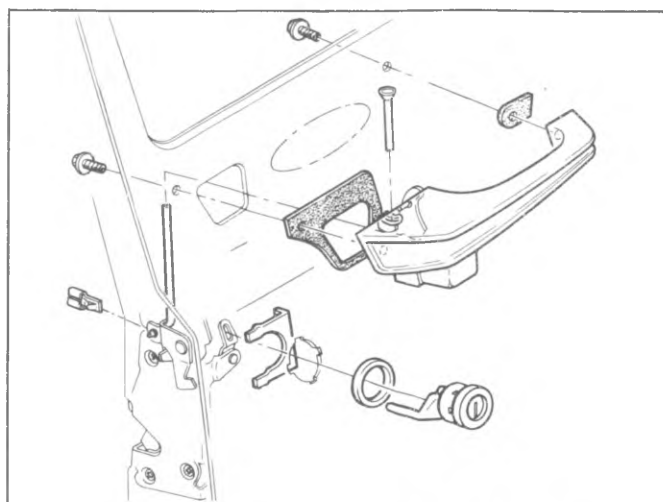

Fig. 2D-36--Outside Handle and Lock Cylinder
5. Remove clip from outside handle rod-to-lock. This is best accomplished by inserting a long screwdriver through the daylight opening, as shown in figure 2D-35.
Door Lock Cylinder -Fig 2D-36